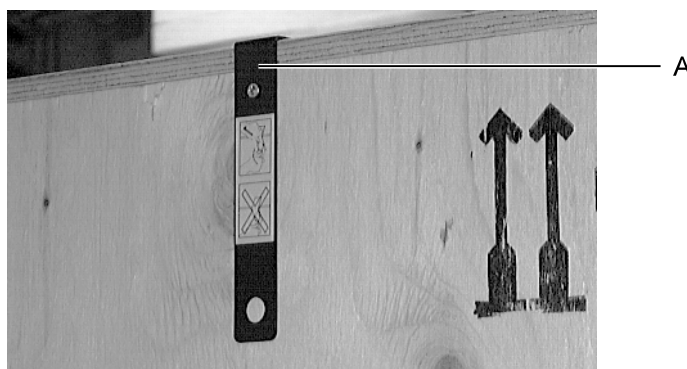

Figure 28: Location of clip removal tool
3. Unscrew and remove the clip removal tool (see Figure 28, A) from the rigid transport packaging.